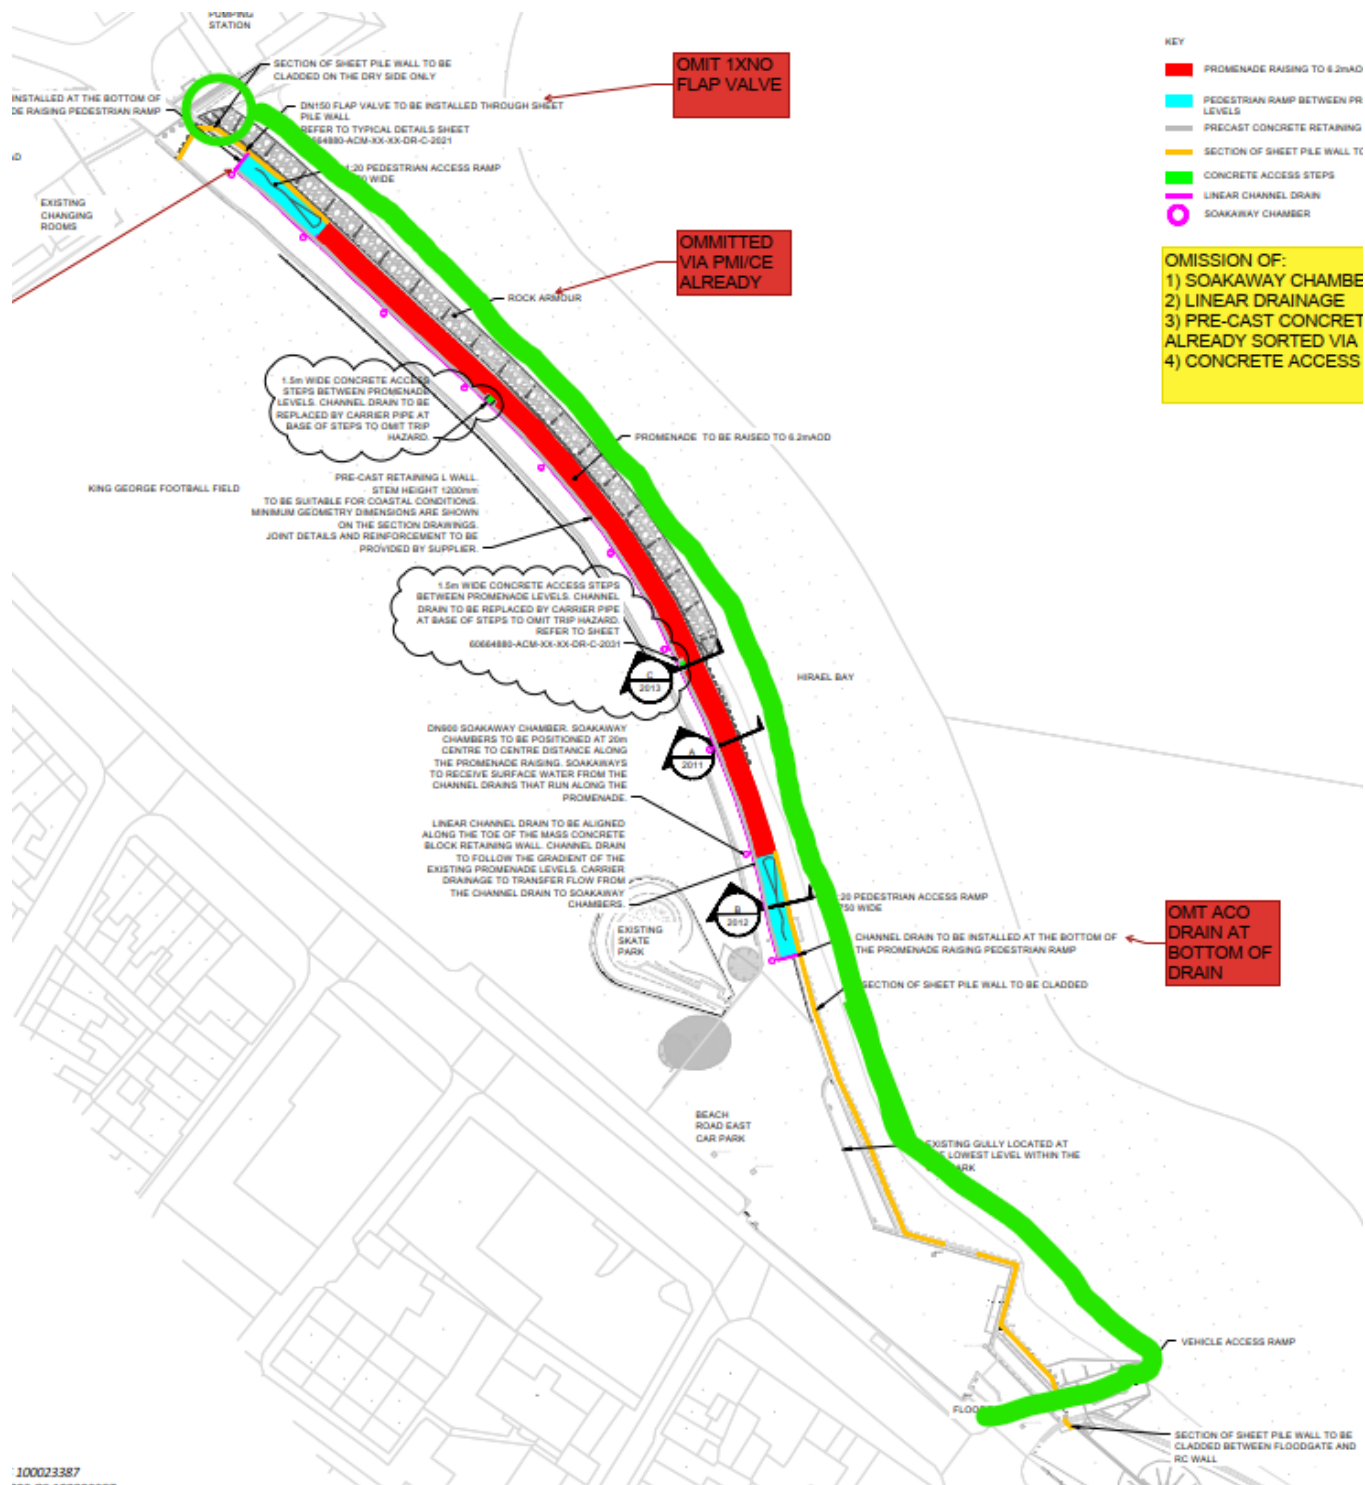

Figure 4, Showing the route to transport materials from Beach Road East Car Park to work area in green
- The FTD will travel along the designated route from the ramp onto the beach at Beach Road East car park to the works area as seen in Fig 4.